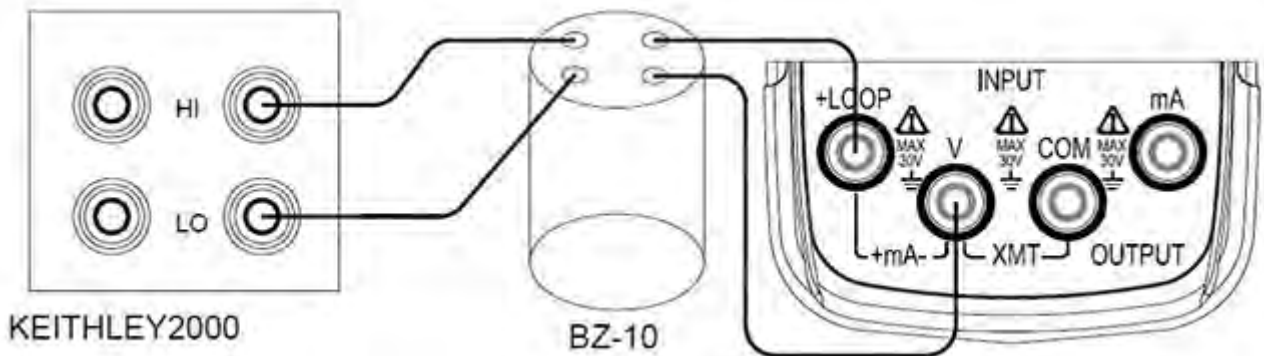

Figure 7-2
- ↪ 3. Connect the EC mAV 2 to the equipment as shown in Figure 7-2: